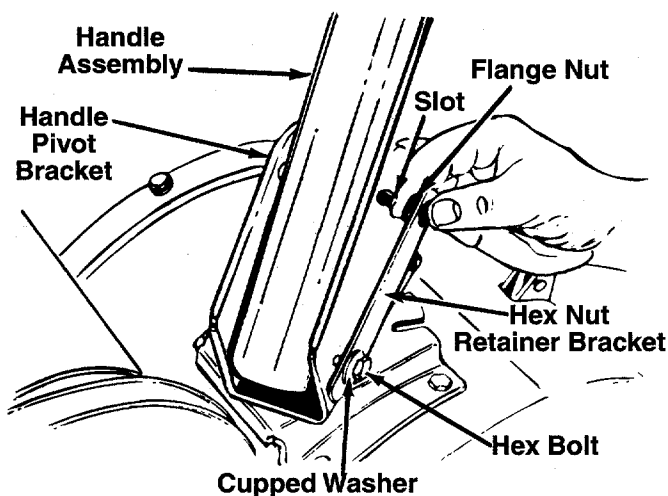

FIGURE 2.
2. Place handle assembly in position in the handle pivot bracket. Line up the holes in handle assembly with the holes (and slots) in the pivot bracket. See figure 2.
3. Insert hex bolt (with washer and hex nut retainer, assembled in step 1 attached) through the bottom holes on the handle pivot bracket and handle assembly. Head of the hex bolt should be to the left hand side of the unit, as shown in figure 2.
5. Place flange nut between hex nut retainer bracket and handle pivot bracket. See figure 2.